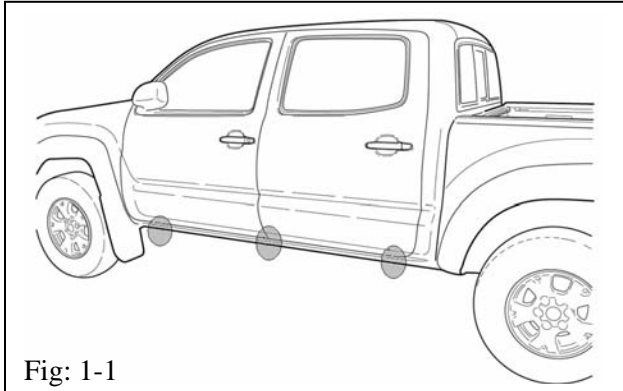

Fig: 1-1
- (a) Remove the six (6) (for C & D-cab) or the four (4) (for B Cab) plastic screws located in the side step mounting holes under the vehicle and discard. (Fig. 1-1 & 1-2)